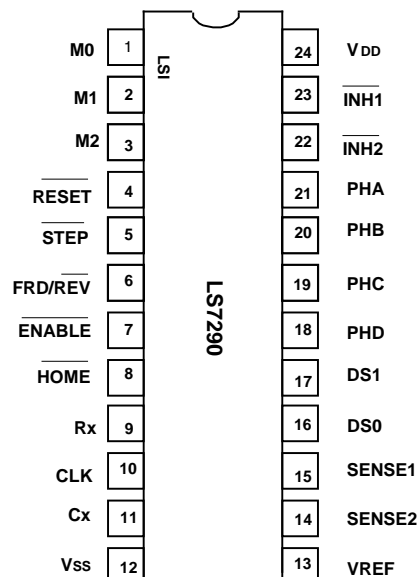

FIGURE 1
- LS7290 (DIP), LS7290-S (SOIC), LS7290-TS (TSSOP) - See Figure 1 -